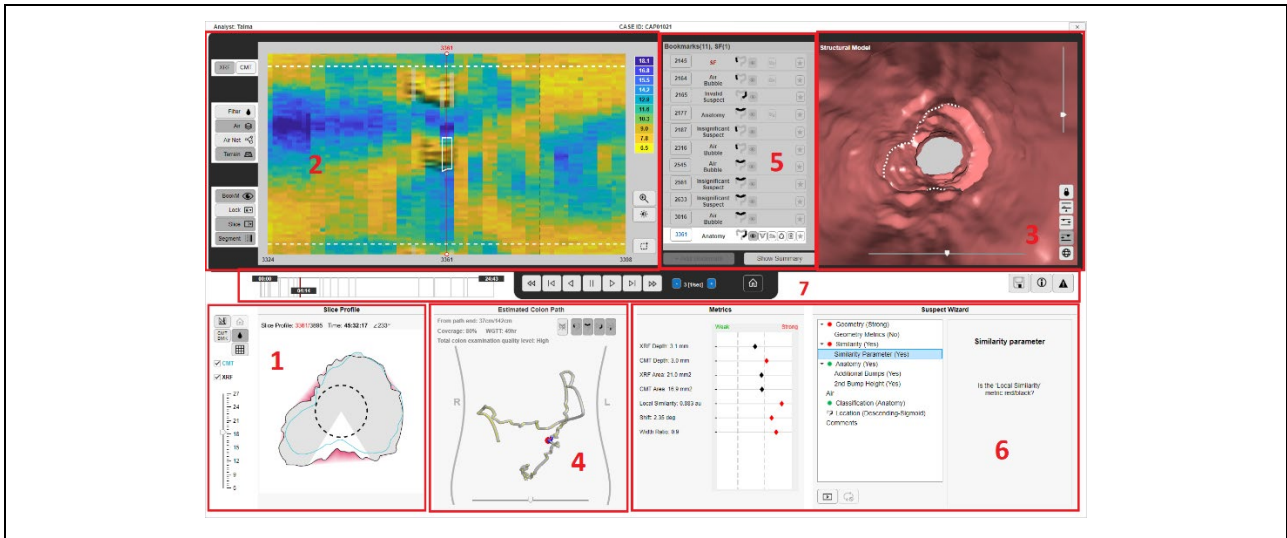

Figure 70: C-Scan® View Editor Main Functionalities
- Slice profile (#1 in Figure 70)
- XRF/CMT maps (#2 in Figure 70)
- Structural model (#3 in Figure 70)
- Estimated capsule path (#4 in Figure 70)
- Bookmarks table (#5 in Figure 70)
- Suspect wizard (#6 in Figure 70)
- Buttons control (#7 in Figure 70)
The 2D slice (#1 in Figure 70) is the basic reconstructed unit, representing the distances from capsule center to colon wall. For additional information and background on reconstruction process see DOC001212 C-Scan® View User Guide and Training.
The 2D XRF/CMT map (#2 in Figure 70) displays a constant number of slices, connected to create a 2D map of the reconstructed colon. The XRF/CMT headline enables toggle between the two signals. For additional information and background on reconstruction process and XRF/CMT signals see DOC001212 C-Scan® View User Guide and Training.